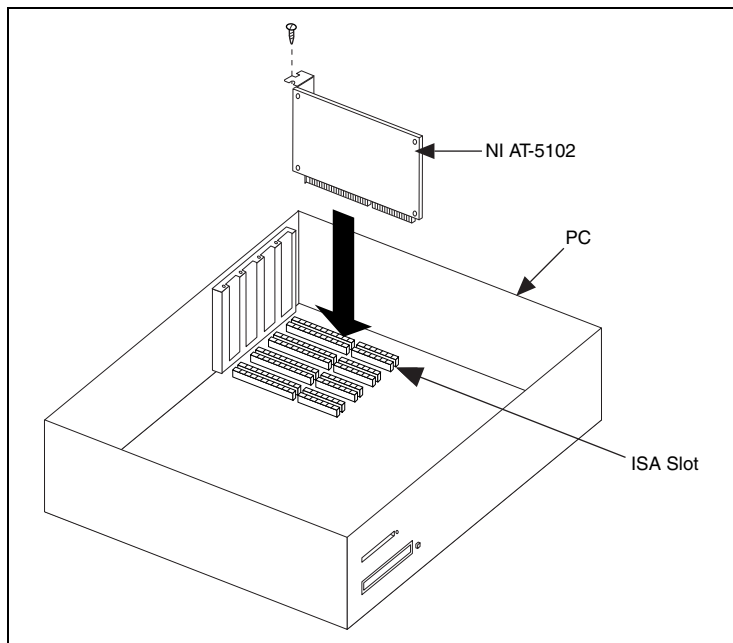

Figure 6. NI AT-5102 Installation
3. Insert the NI AT-5102 into an open ISA slot, as shown in Figure 6.